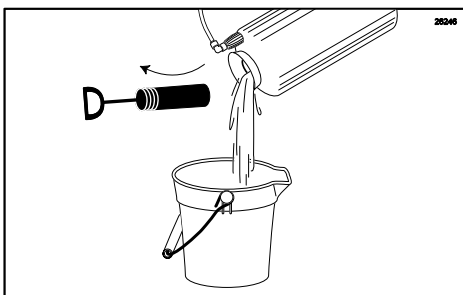

Figure 104
3. Empty all the sanitizer solution from the Sanitizer Tank. (See Figure 104.)